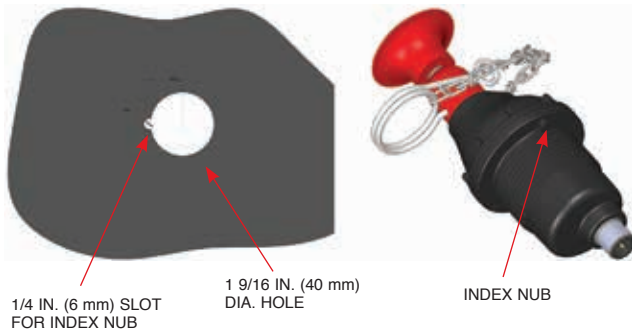

FIGURE 5-21
1. Drill a 1 9/16 in. (40 mm) hole in selected surface (always deburr and smooth edges of hole). See Figure 5-21. **Note:** When supporting from the vehicle make certain any support device requiring drilling or welding is approved by owner or vehicle manufacturer.
2. Determine position and add keyway for EMA orientation index nub See Figure 5-21.